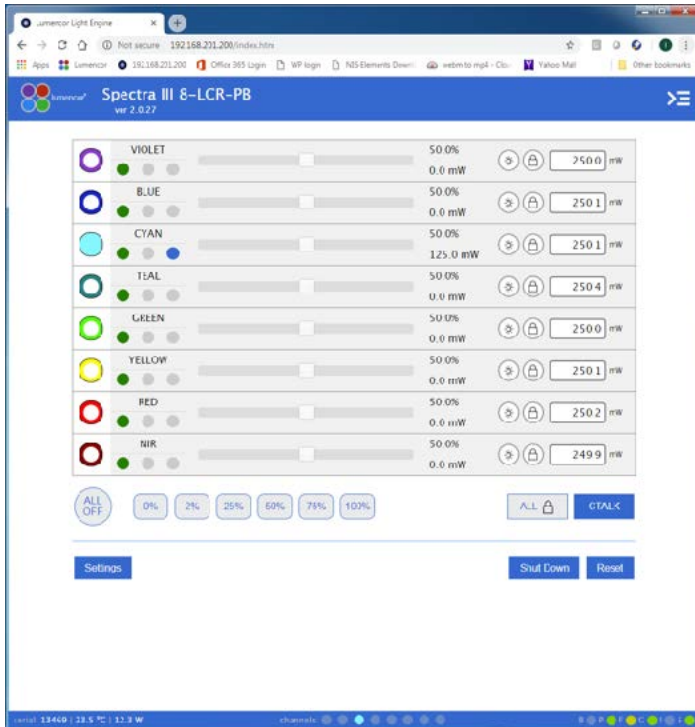

Figure 5. SPECTRA GUI, Control Tab. The GUI is accessed by typing the light engine IP address (198.168.201.200 in this example) into a web browser.
- 3 For subsequent start ups, use the master power button to start or shut down the light engine. Shut down can also be accomplished using the “Shut Down” button in the GUI (Figure 5, left).
The Web GUI provides a quick and easy way to control the light engine, providing the ability to turn each source on/off, adjust the power of each source independently from off to full power (Figure 5). The GUI also tracks the total on time and displays real-time power sensor readings. To set up the Web GUI, follow the follow protocol below:
Unusually weak fluorescence signals in a single detection channel (e.g. DAPI)	<ol style="list-style-type: none"> 1. Check that the light engine power output reading in the Web GUI (Figure 5) is normal. 2. Check that the dichroic beamsplitter and emission bandpass filter in the microscope are compatible with light engine excitation filter specifications shown on the certificate of conformance (Figure 1)².
¹ If a safety interlock is open, the condition will be indicated by a red status indicator in the lower right corner of the GUI control screen (Figure 5). ² Excitation filters are installed in the light engine. Excitation filters installed in the microscope cube are generally redundant and it is recommended that they are removed.